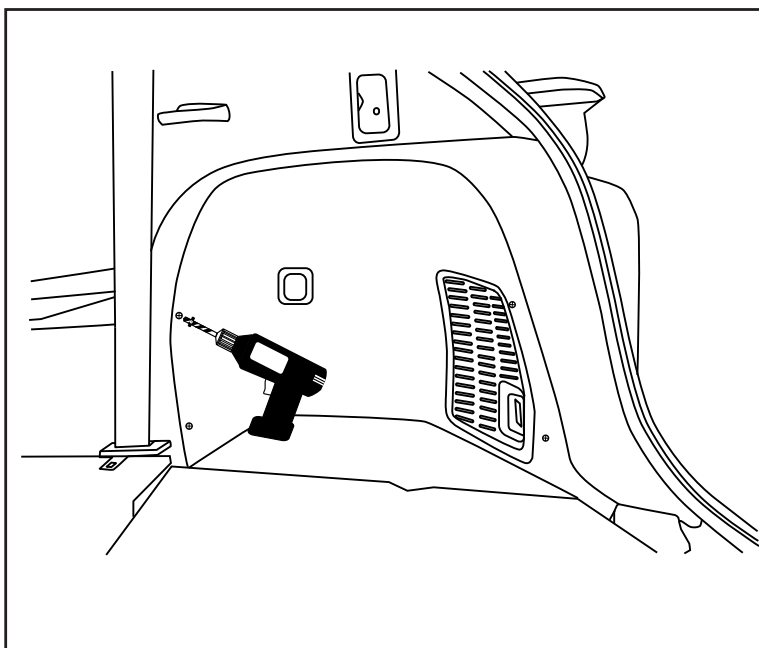

Fig. 6
7. Using the 1/4" (or 6mm) drill bit and drill stop set at 1/2" (or 13mm), drill the hole locations (Fig. 6).